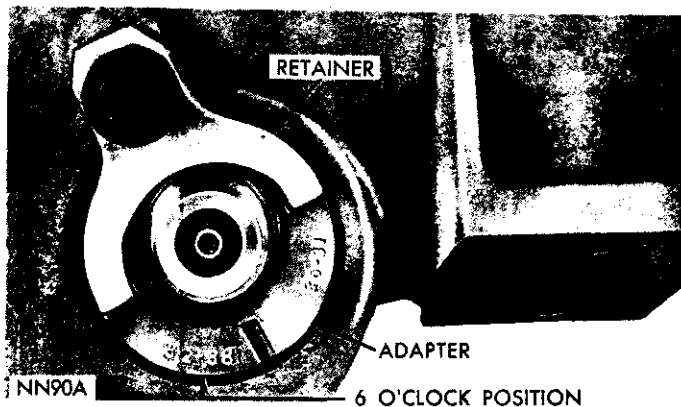
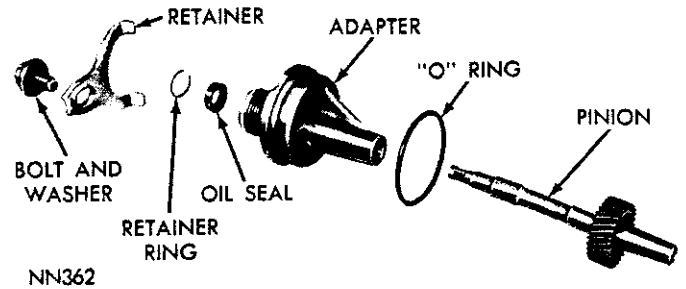
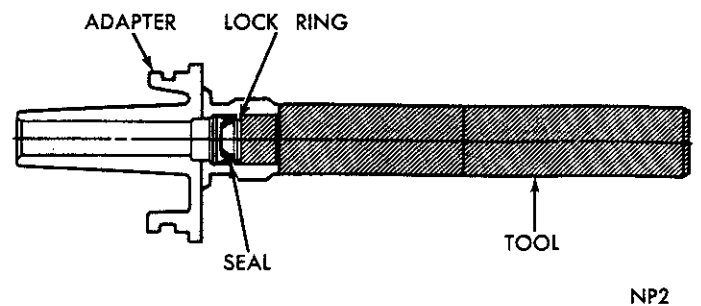

Fig. 10—Speedometer Pinion and Adapter—Installed
Fig. 11—Speedometer Pinion and Adapter—Disassembled
Fig. 12—Installing Speedometer Pinion Seal
(1) Place drain pan under adaptor or drain transmission.
(2) Remove bolt and retainer securing speedometer pinion adapter to extension housing (Fig. 10).
(3) With cable housing connected, carefully work adapter and pinion out of extension housing.
(4) If transmission fluid is found in cable housing, replace seal in the adapter (Fig. 11). Start seal and retainer ring in adapter, then push them into adapter with Tool C-4004 until tool bottoms (Fig. 12).
(5) Note number of gear teeth and install speedometer pinion gear into adapter (Fig. 11).
assembly so that the number on the adapter, corresponding to the number of teeth on the gear, is in the 6 o'clock position as the assembly is installed (Fig. 10).